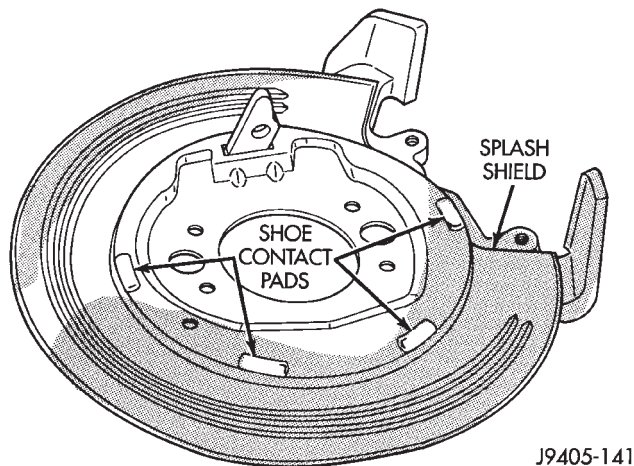

Fig. 50 Shoe Contact Pads
(1) Lubricate shoe contact pads and cam and lever with Mopar multi-mileage grease (Fig. 50).